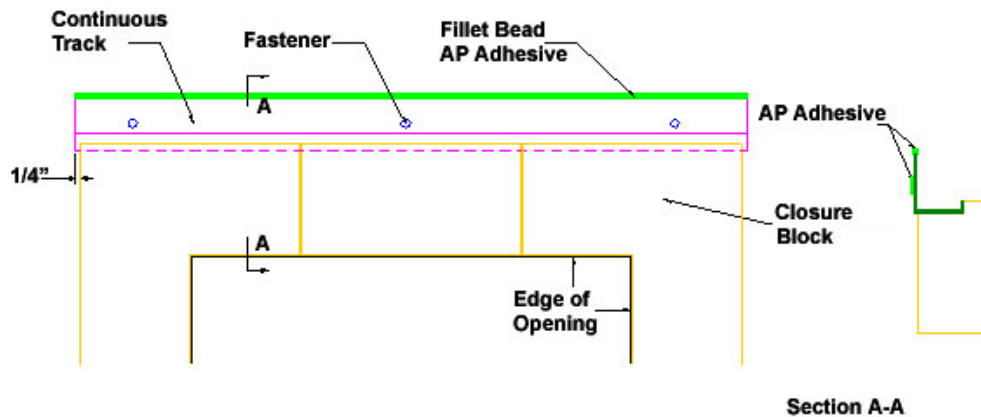

Figure 25
- i. Cut a piece of Dryvit Track to length so that it extends 1/4 in (6.4 mm) beyond the edge of the Closure Blocks as shown in Figure 25. **NOTE: The Dryvit Track must be continuous. Do not splice!**